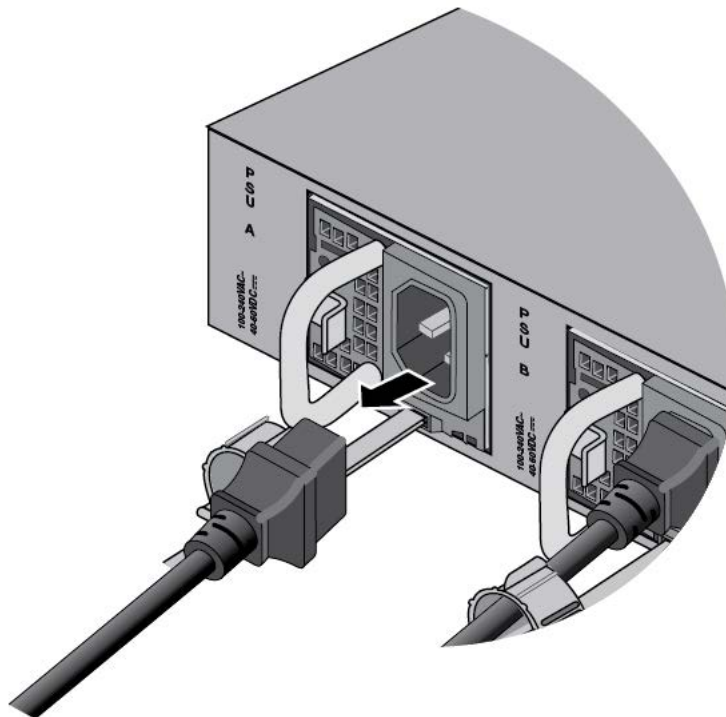

Figure 146. Disconnecting the Power Cord from the PWR600 Power Supply
3. Disconnect the power cord from the power supply. Refer to Figure 146.